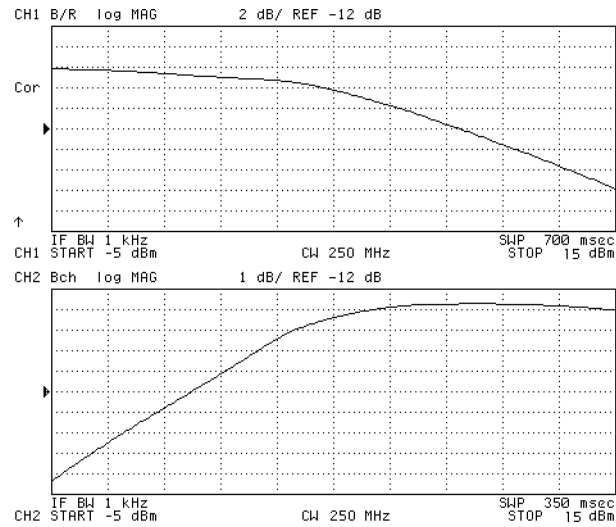

Figure 10-16.
5. Press **Display** **DUAL CHAN** on **OFF** to **ON** off to display both channel (see Figure 10-16). Note that you must subtract 6 dB from the input value readout. This is necessary because the input signal is attenuated by the power splitter that is between the RF OUT and the DUT.